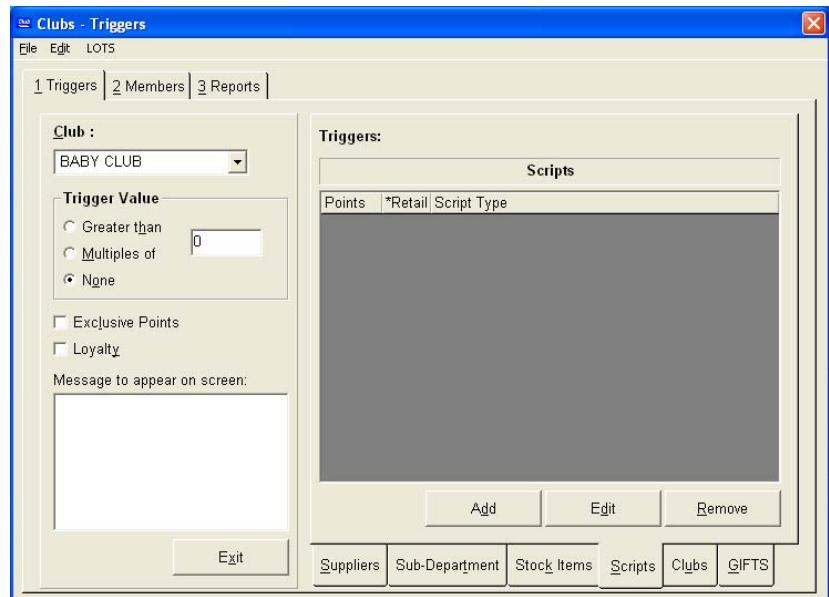

Figure 378
1. Select the '**Scripts**' tab along the bottom of the Club window (see Figure 378).